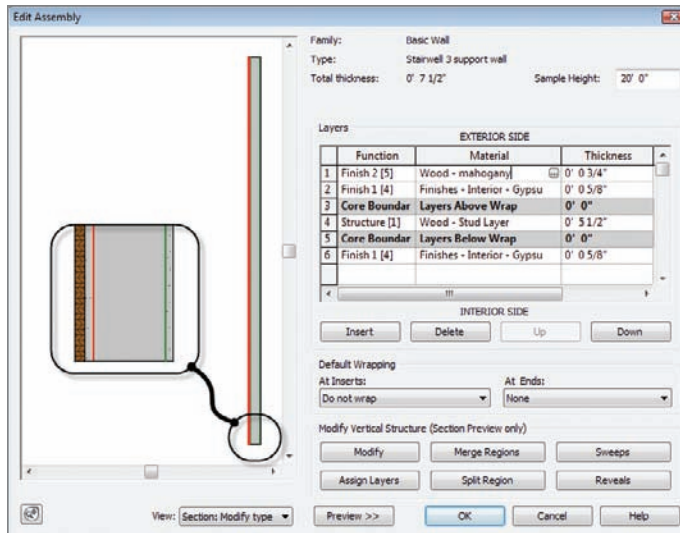

FIGURE 16.5 Adding the 3/4" mahogany veneered plywood material
5. Change the Thickness to 3/4". Your wall's layers should resemble Figure 16.5.